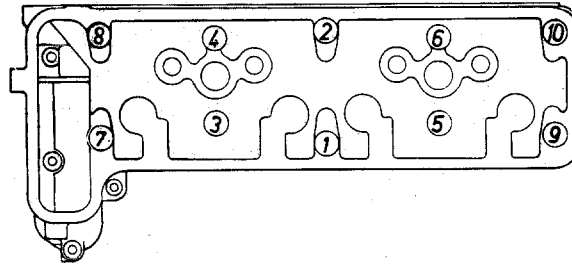

Fig. 01—4/8
24. Screw in the four hexagon socket screws at the front on the cylinder head and tighten up with Hexagon Socket Wrench 187 589 00 07 (see Fig. 01—4/3). In the case of distributor bearings fitted with fixing lugs, screw d (see Fig. 01—4/3) is fitted when installing the distributor bearing.